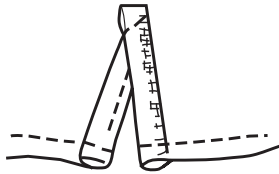

Figure 15
9. Fold placket into position, lapping binding evenly. Stitch a diagonal line across top of binding to make a small triangle (Figure 15).